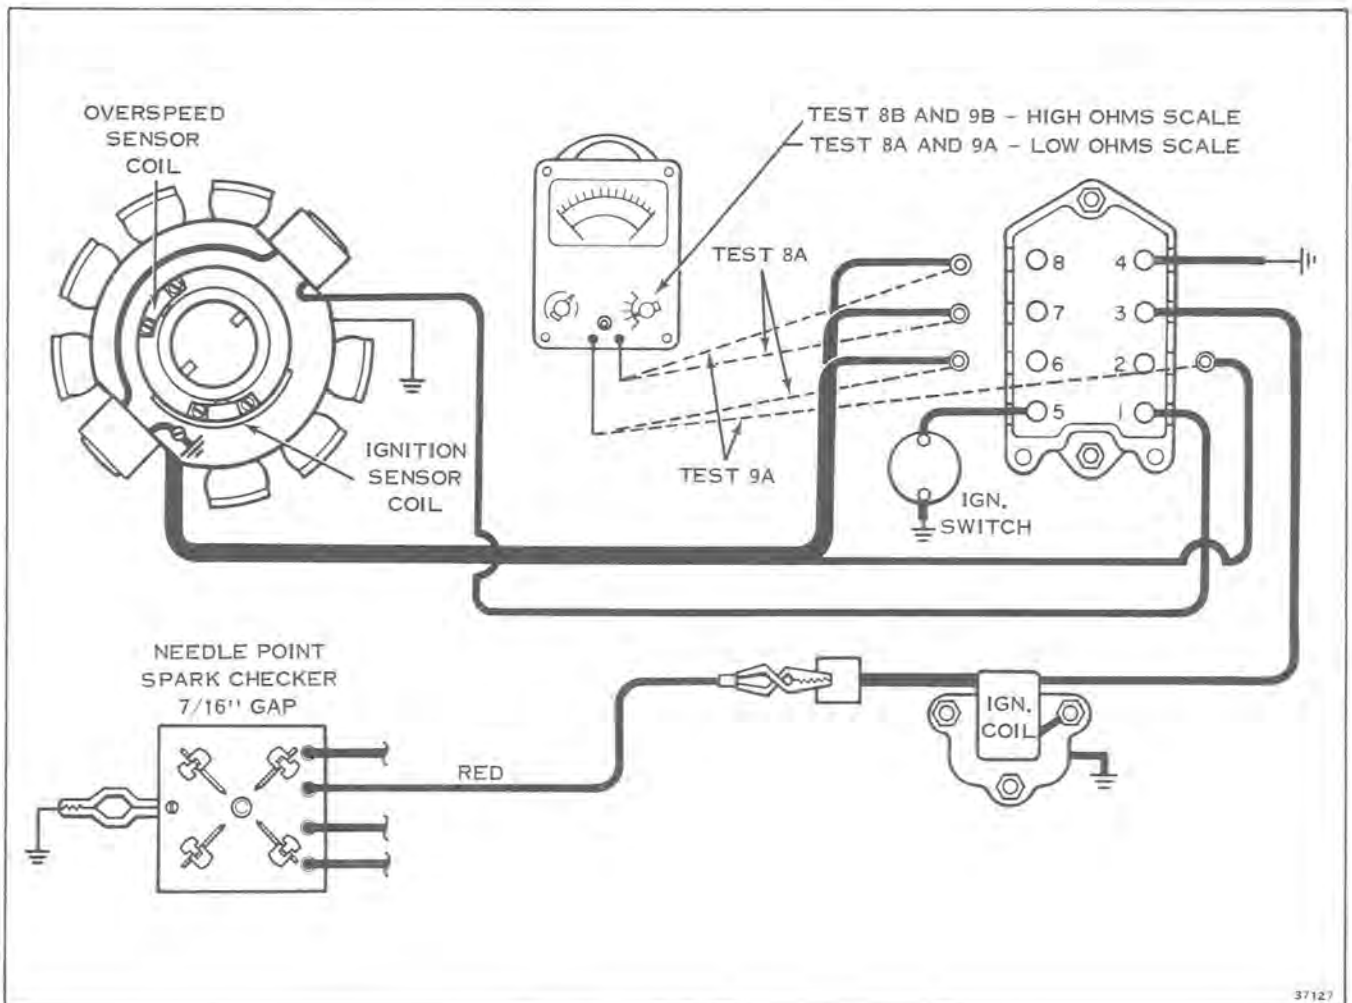

Figure 7-18
- A. Remove the white/green stripe lead from terminal #6 and the black/white stripe lead from terminal #7. Check for 26 to 30 ohms resistance between leads #6 and #7. See Figure 7-18. If ignition sensor coil resistance does not come within these tolerances, it must be replaced. Check on low ohms scale.
- A. Remove the white/orange stripe lead from terminal #2 and the black/orange stripe lead from terminal #8. Check for 26 to 30 ohms resistance between leads #2 and #8. See Figure 7-18. If the overspeed sensor coil resistance does not come within these tolerances, it must be replaced.